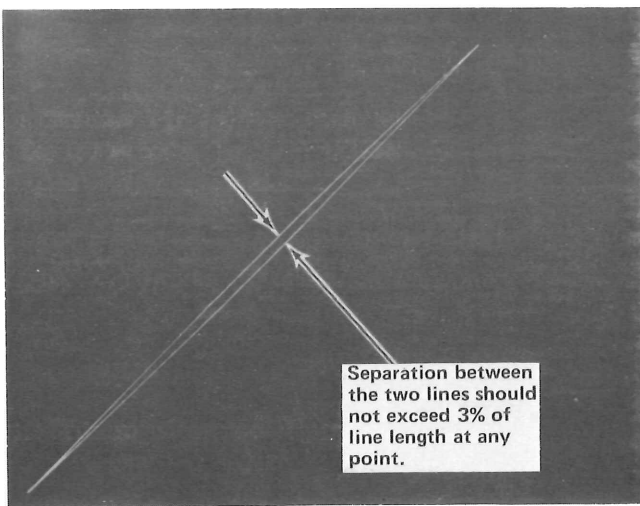

Fig. 4-13. Vector dynamic geometry illustration.
- e. Check that the separation between the two lines does not exceed 3% of the total line length (approximately 0.25 inch) at any point. See Fig. 4-13.